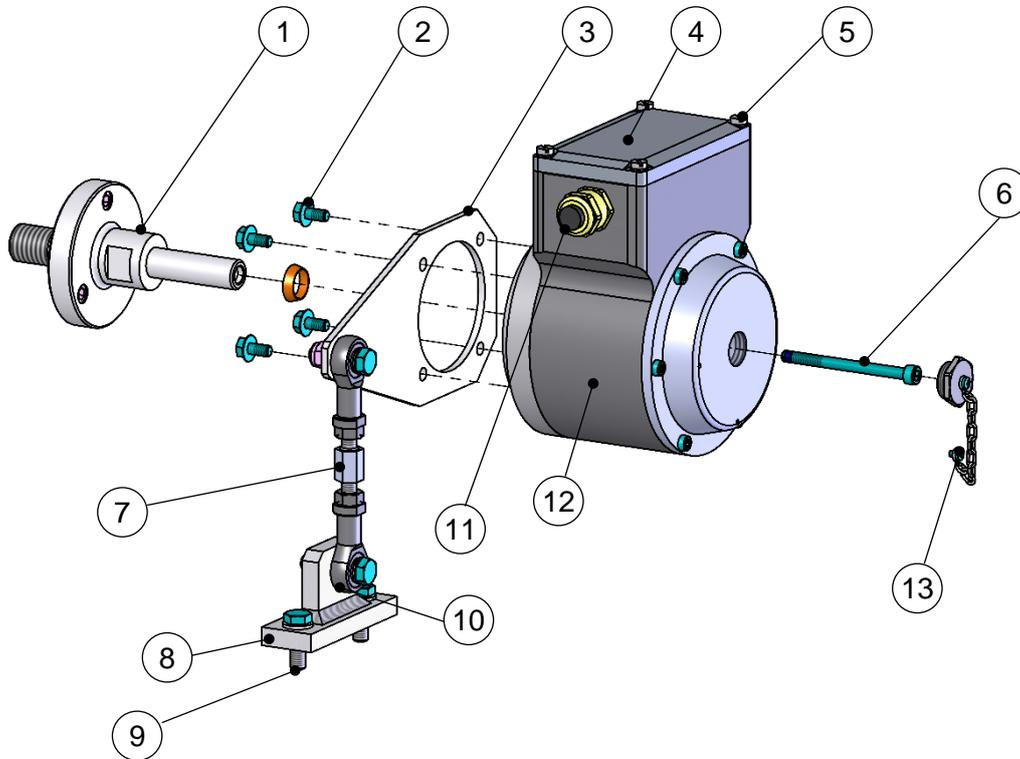

Fig. 2:
5. Secure the hollow-shaft device with the hexagon socket head cap screw (6). (Fig. 2). Maximum tightening torque 6 Nm.